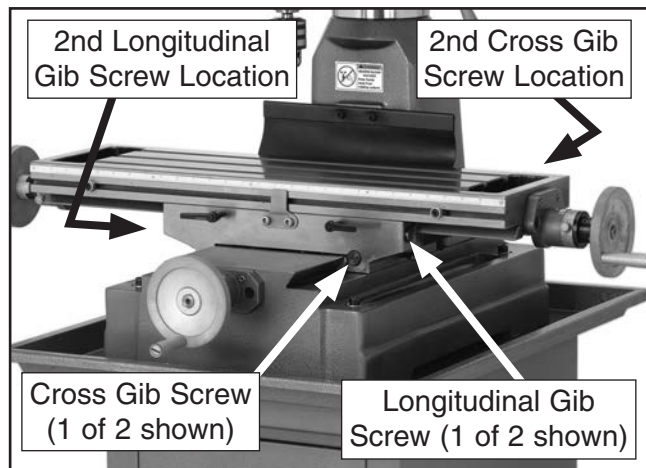

Figure 58. Table gib adjustment screw locations.
3. Loosen or tighten the cross gib screws (**Figure 58**) in an alternating manner to adjust the cross travel gib.